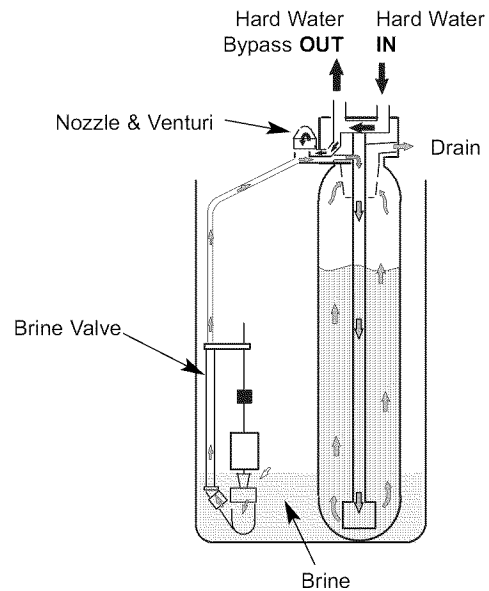

FIG. 43
**BRINING:** During brining, the brine is moved from the salt storage area, into the resin tank. See Fig. 43. Inside the resin tank, brine cleans hardness minerals from the resin beads and they are discharged out the drain. How much brine is needed to clean the resin depends on:
**BRINE RINSE:** After all of the brine is moved into the resin tank, the brine valve closes. Water keeps flowing the same way it did during brining except the brine flow has stopped. Hardness minerals and brine flush from the resin tank to the drain. Brining and brine rinse together vary in the length of time they take, relative to the fill cycle length. See Fig. 43.